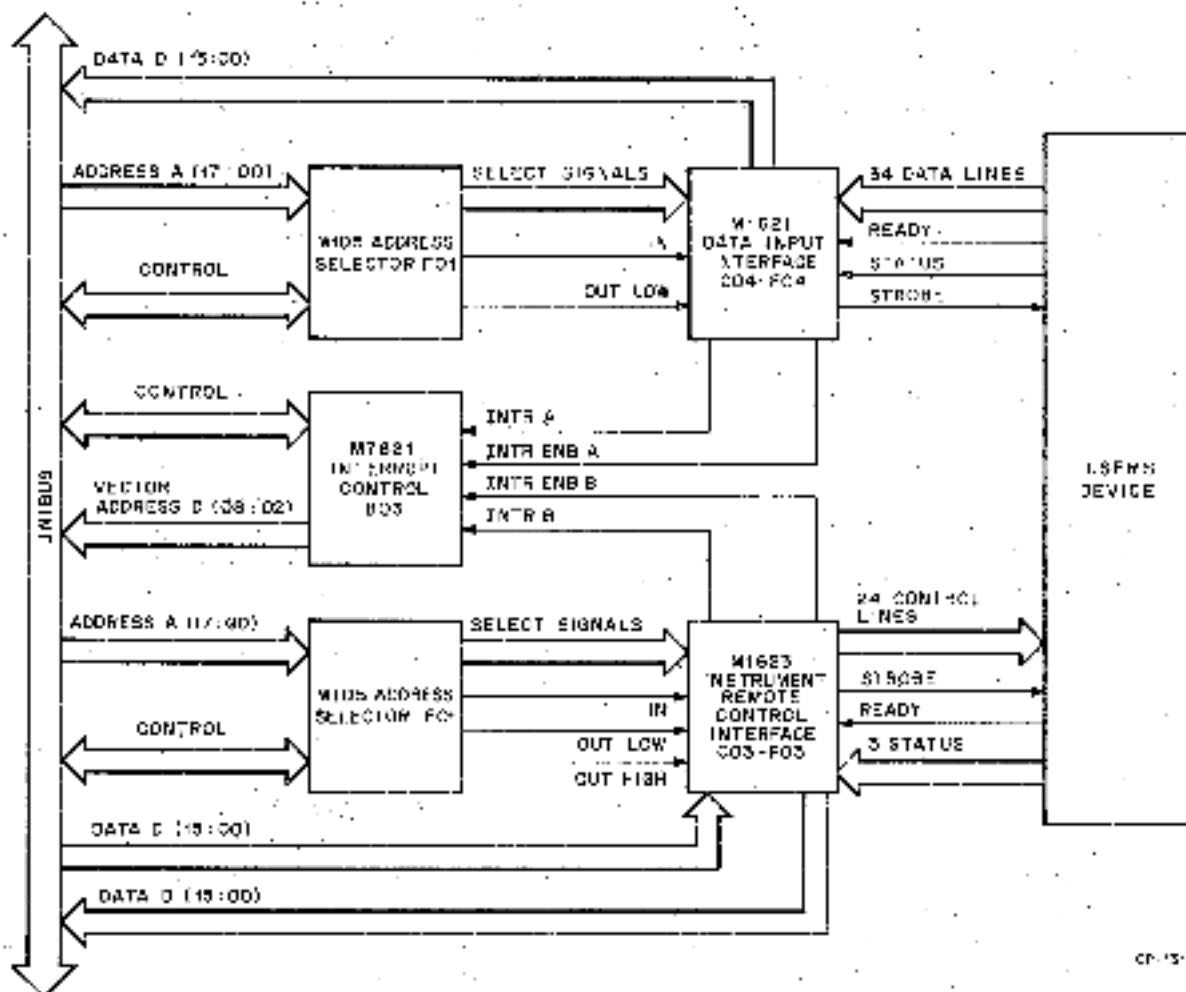

Figure 4-1 DECKit11-M Block Diagram
This section contains a general functional description of DECKit11-M operations pertaining to the normally configured kit. Figure 4-1 is a block diagram of DECKit11-M. Operation of DECKit11-M consists of transferring 34 data bits from the user's device to the Unibus through the
4.2 FUNCTIONAL DESCRIPTION (Figure 4-1)